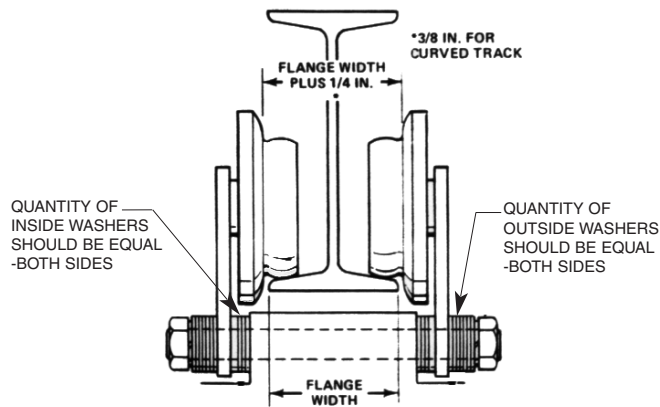
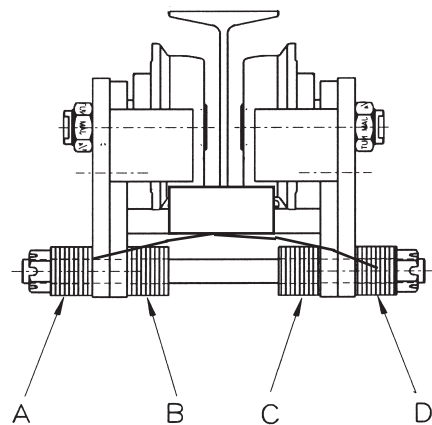

Figure 1.
Figure 2.
1. Measure actual width of the beam flange on which the trolley is to operate. To determine proper trolley side frame spacing to assure that adequate wheel clearance is provided, the distance between the beam flange and the inside face of the trackwheel flange (approximately 1/8 to 3/16 inch on straight runway beams, 3/16 to 1/4 inch on curved beams for 2 ton units. See Figure 2) and (1/4 inch for straight runway beams, 3/8 inch on curved beams for 3-7 1/2 ton units. See Figure 1).